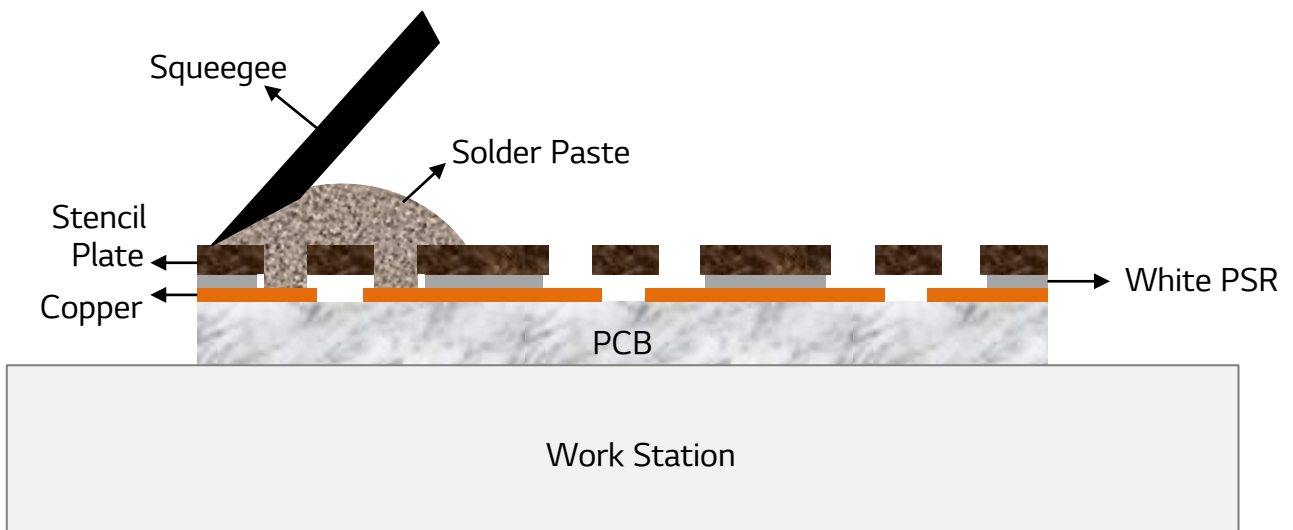

Fig. 7 Auto stencil printing Machine
4. To use workstation which is suitable to mechanically support PCB on the printing process (Fig. 7)